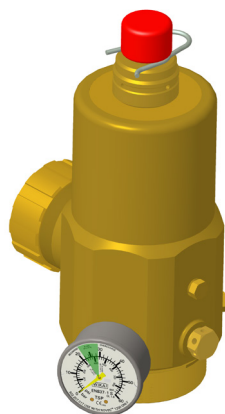

FIGURE 6-17
3. Carefully screw the manual actuator to the top of the electrical actuator or directly onto the master container valve. See Figure 6-17.